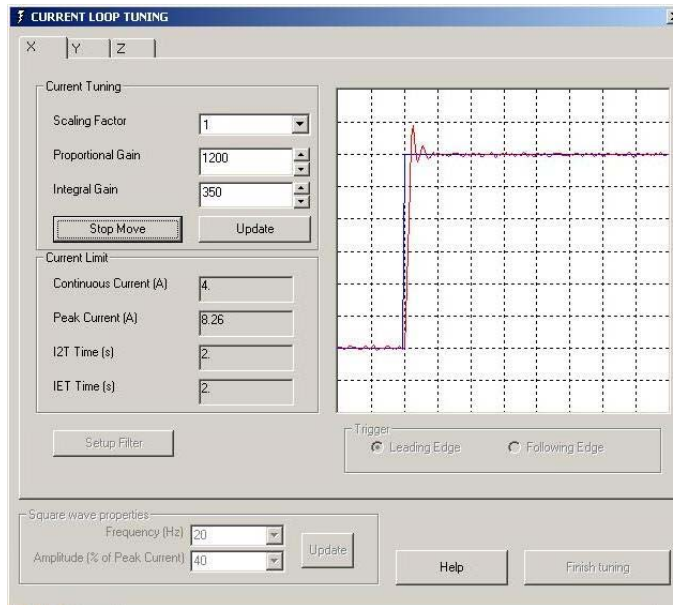
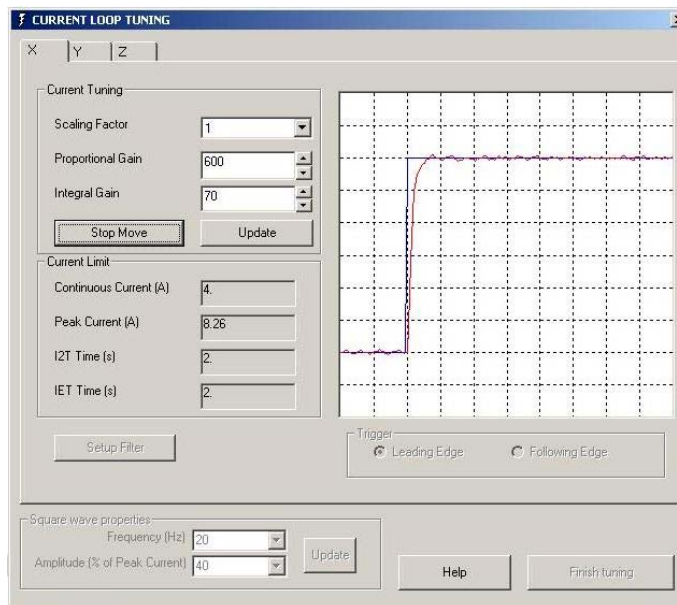

Figure 6
Figure 7
If overshoot is experienced as shown in figure 6, it will be necessary to re-tune the system to remove this. Experience shows that typically increasing the proportional gain and/or reducing the integral gain will permit the trace to match the demand closer.
**NOTE:** Experience has shown that any overshoot, shown in figure 6, in the current loop tuning will reduce the ability for the system to be optimised for scanning. An over damped response, as shown in figure 7, should be achieved.